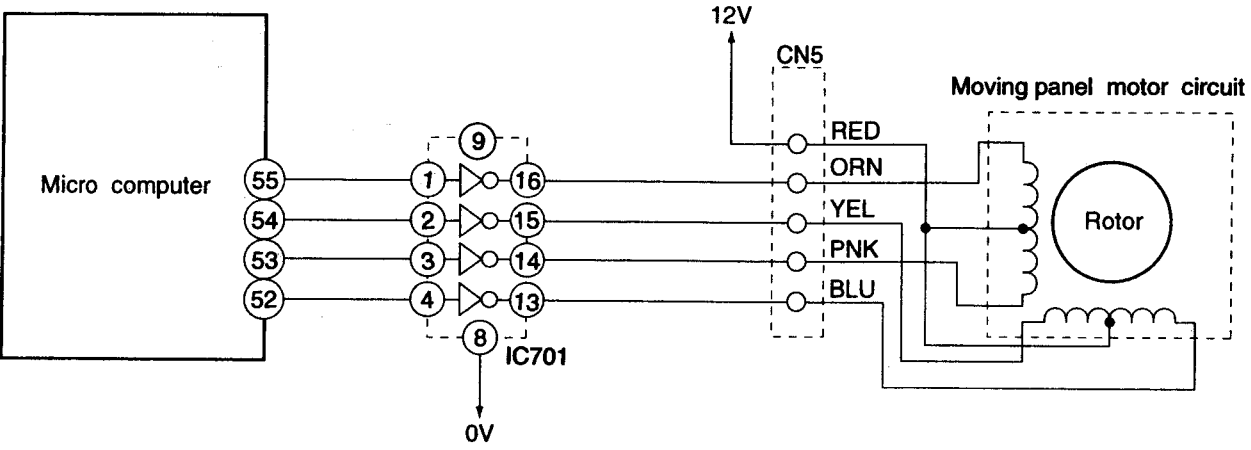

Fig. 5-1 Moving panel motor circuit
- The moving panel motor drive circuit is as shown in Fig. 5-1, and pins 52 - 55 of the microcomputer output the signals as shown in Fig. 5-2.